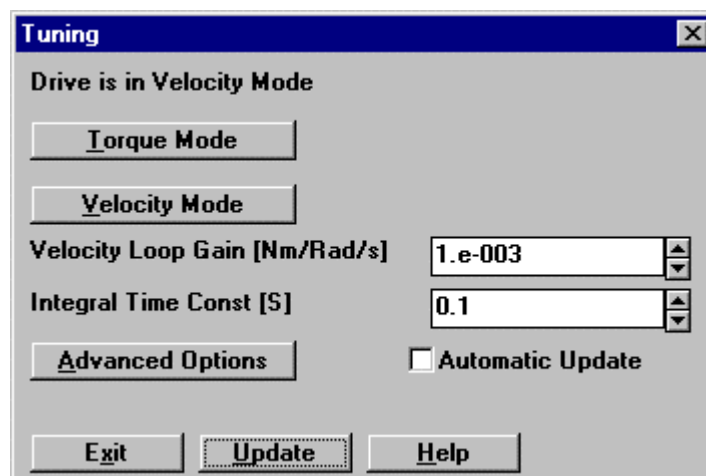

FIGURE 3.12 Tuning Dialog Box
- Confirm that the message “Drive is in Velocity Mode” is displayed at the top of the *Tuning* dialog box (FIGURE 3.12). If it is not select the **Velocity Mode** button and reconfirm message.